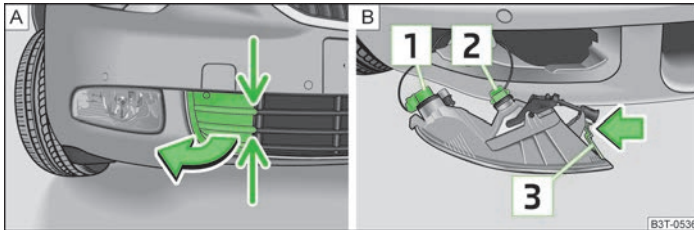

Fig. 188 Front bumper: Cover/fog lights with daylight driving lights
- › Grasp the cover in the areas marked by the arrows » Fig. 188 - **A** and remove it.
- › Insert your hand into the opening left by the cover and press the lug **3** » Fig. 188 - **B**.